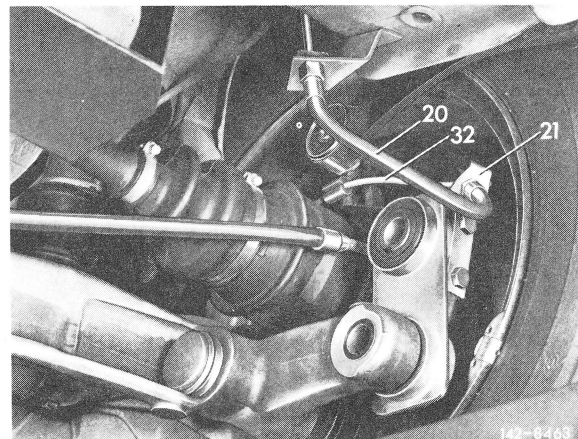

Fig. 2
2 On vehicles with diagonal swing axle with starting torque compensation, unscrew hex. screws for attaching brake hose holder (21) from brake caliper bracket (Fig. 2). Then also attach caliper to torsion bar by means of a hook.
7 On vehicles with diagonal swing axle with starting torque compensation, attach brake hose holder to caliper brakcet (Fig. 2).